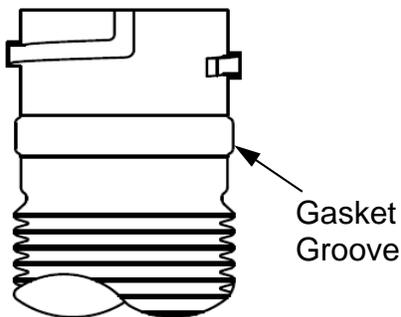

Figure 15
1. Install flexible pipe gasket into the gasket groove (just below the twist lock grooves) of the cut flex as shown (Fig 15). Ensure the flat side (Fig 16) of the gasket is to the outside (touching the flex). If a tapered/lead-in side of the gasket is offered (Fig 16 & 17), make sure it is on the top side of the female flex pipe to accept the mating pipe/flex section correctly.
1. Place flexible gasket as shown previously (Fig 15) into gasket groove.